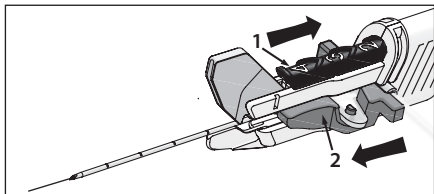

Figure 3
- Retract the guidewire slider to the 2 cm mark (refer to Figure 3 step 1).
- Advance the catheter forward slightly, no more than 3mm, using the juncture hub advancer (refer to Figure 3 step 2).